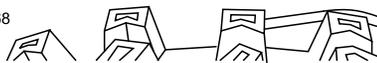

Figure 13
2. With the traction lever disengaged, check the pin in the elongated slot in the left side of the machine above the tire (Figure 13). There should be a gap of 6 mm (1/4 inch) from the front of the slot to the front edge of the pin. If adjustment is necessary, see Adjusting the Traction Cable (page 18).